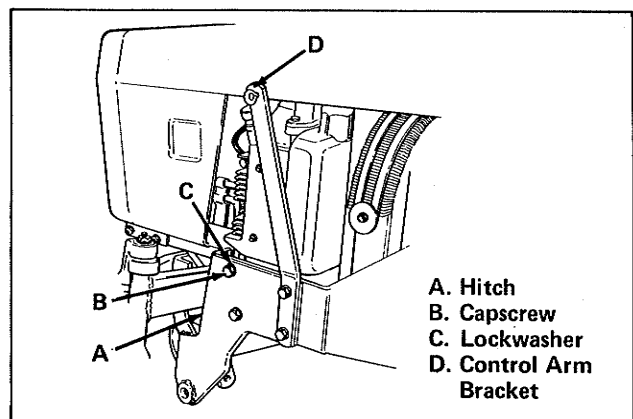
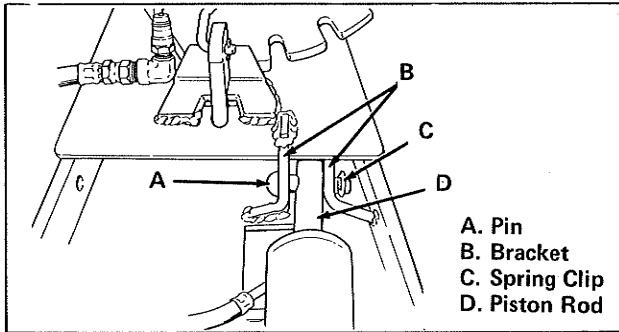

Figure 3. Install Hitch and Control Arm Bracket
Figure 4. Attach Hydraulic Cylinder
1. Install hitch for front-mounted attachments (item A, figure 3) on tractor. Use eight capscrews (item B) and lockwashers (item C) to secure the hitch and the control arm bracket (item D) provided with the snow plow/dozer blade.
2. Attach piston rod (item D, figure 4) of hydraulic cylinder to bracket (item B) using a pin (item A) and spring clip (item C).
6. If desired, detach piston rod (item D, figure 4) from push bar and remove hitch (item A, figure 3) and control arm bracket (item D) from tractor.